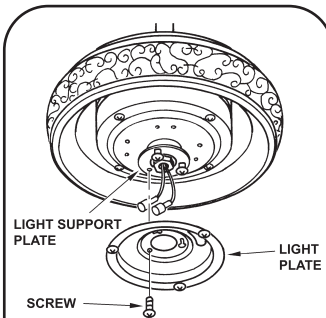

Fig.20
Step 2. Remove one of the three screws from the light support plate and loosen the other two (do not remove). Install the light pan and secure with two screws previously loosened and the one removed. (Fig. 20)